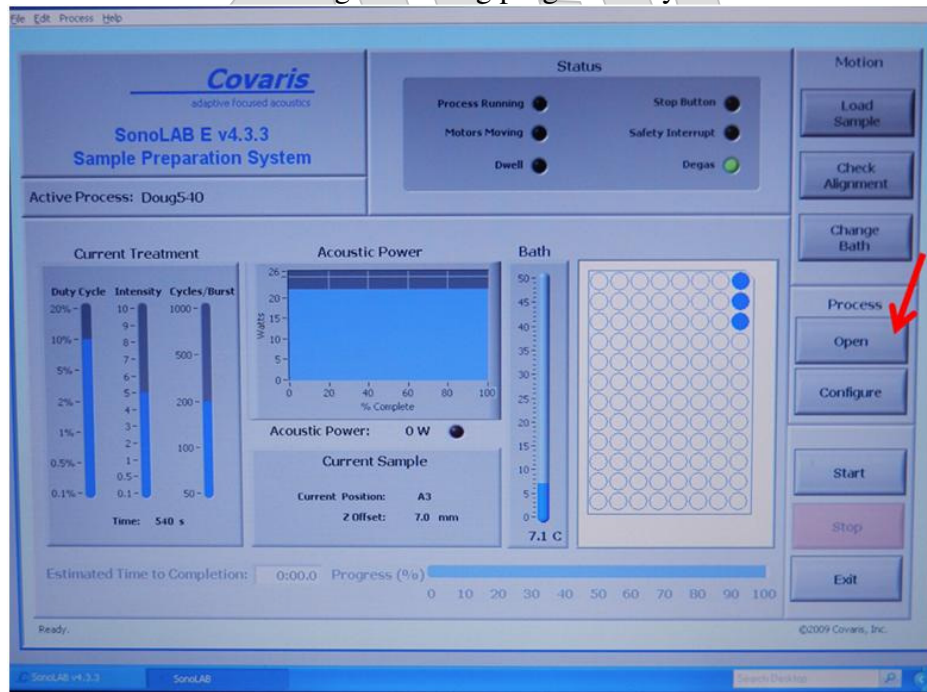

Figure 7: Covaris SonoLAB GUI. Click “OPEN” button and select the library specific protocol.
2.2.1. On the SonoLab software screen, click on the “Open” icon. Open “Production Folder” and select the right shearing program for your size fraction. See Figure 7.